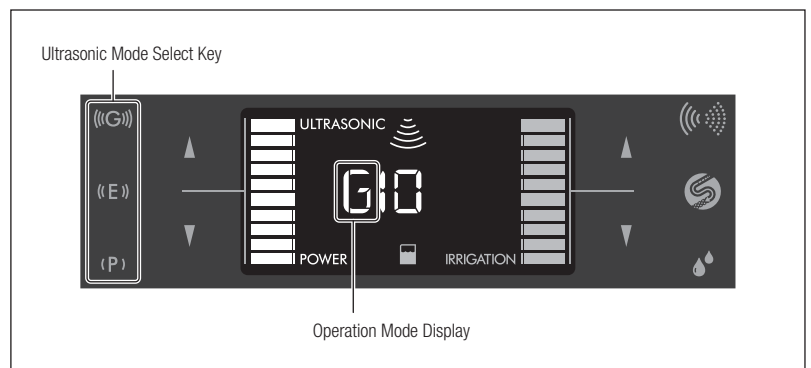

Fig. 19
- 1) Touch the Ultrasonic Mode Select Key to select the Mode. The selected Mode is displayed on the LCD Panel as P/E/G (Fig. 19).